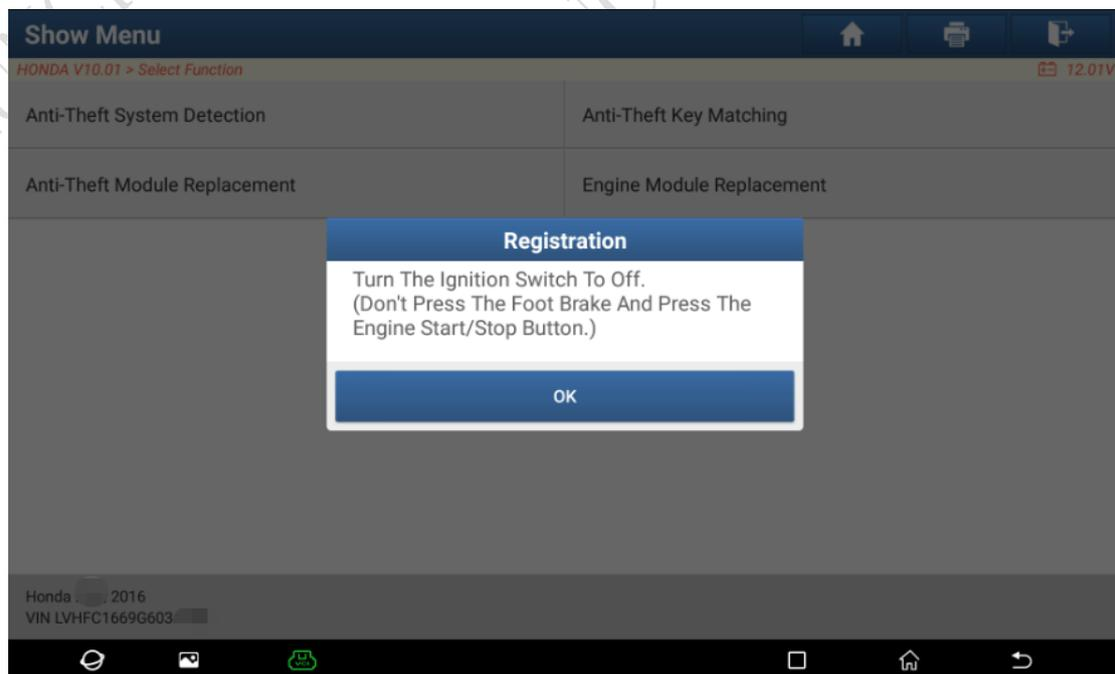

Figure 8
8. Turn the ignition switch to OFF, as shown in Figure 8.